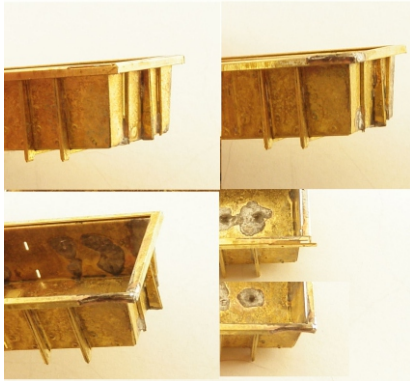

FIG. 17
- 40.) install (U)-Top Cord on the top edge of (A)-Main Body. Once attached form the front edge with the two holes for the grab iron to the contour provided and then trim off the excess. refer to [FIG. 17]
- 41.) with a 00-90 tap, tap the two holes at each end of (E)-Floor for the couplers in the (E)-Floor Ends.
- 42.) Join the (E)-Floor assembly to the (A)- Main Body making sure (E)-Floor is flush up against (A)-Main Body.